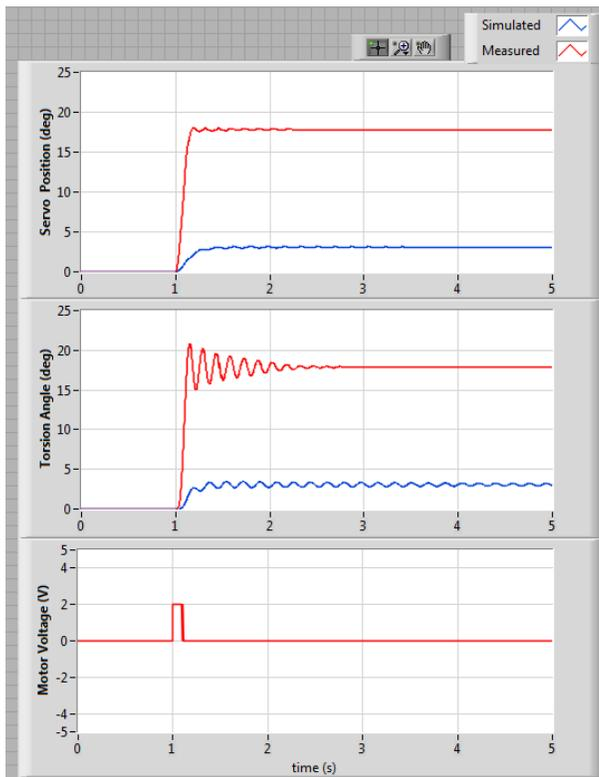

Figure 2.8: Model Validation Response using Default Model (does not accurately represent the system)
3. Run the VI. The VI is shown running with the default model given in Figure 2.8. The *Servo Position (deg)* scope displays the simulated servo angle in blue and the measured angle in red. Similarly, the *Torsion (deg)* scope shows the simulated torsion angle in blue and the measured angle in red.